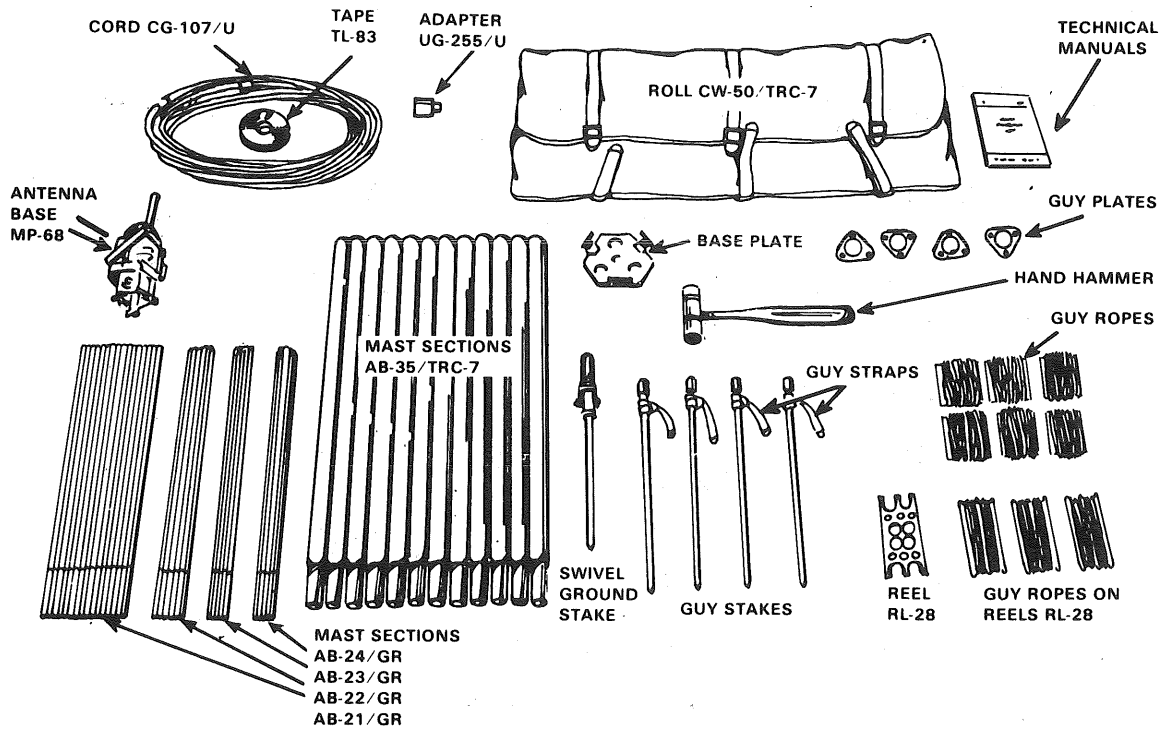

Figure 1
- a. Direct cleaning and grouping of components (fig 1).